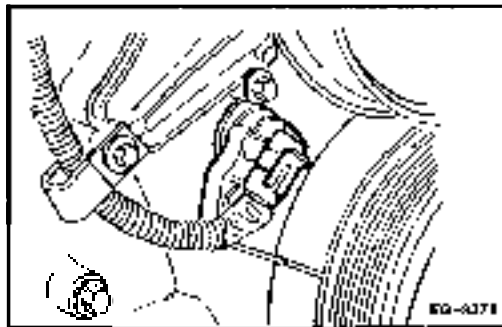

Figure 4.1. - Timing Pointer Aligned with Mark on Damper
- Bar engine over by hand until pointer on camshaft position sensor (CMP) is aligned with the machined timing slot on the crankshaft damper. Figure 4.1.